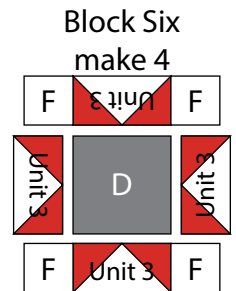

Fig. 18
23. Repeat Step 22 and refer to Figure 18 for component identification, placement and orientation to make (4) Block Six squares.